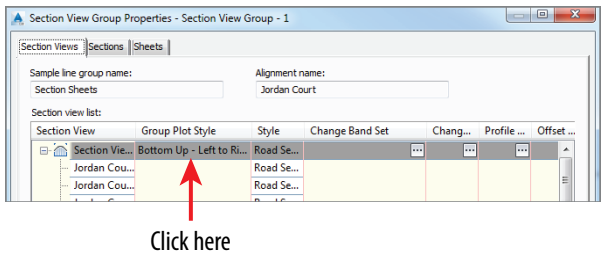

FIGURE 11.9 Where to click to change the group plot style for the section view group
3. On the Section Views tab, click the first row in the Group Plot Style column (see Figure 11.9). Select Left To Right – Top Down, and click OK.